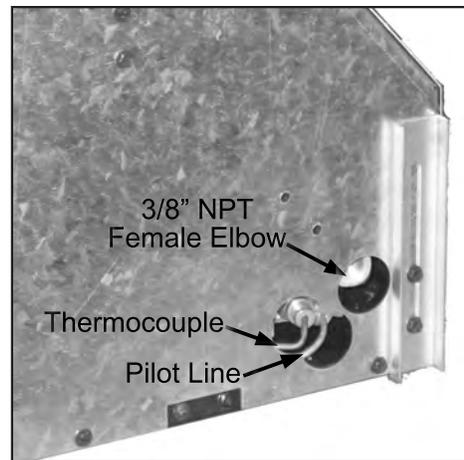

Figure 53: $\frac{3}{8}$ " NPT female elbow.
- A $\frac{3}{8}$ " NPT male pipe will have to be turned into the $\frac{3}{8}$ " NPT female elbow at the lower right side rear of this fireplace (see Figure 53). Consult the local authorities for local codes or use the CAN/CGA B149 (1 or 2) installation code in Canada. In the US, gas installations follow either local codes or the current edition of the National Fuel Gas Code ANSI Z223.1.
3. Only if installing Adjustable Surround: Slide one mounting bracket back into the inner wide slot, shown in Figure 53, of the left and right trim sides and slide two (2) into the top trim.